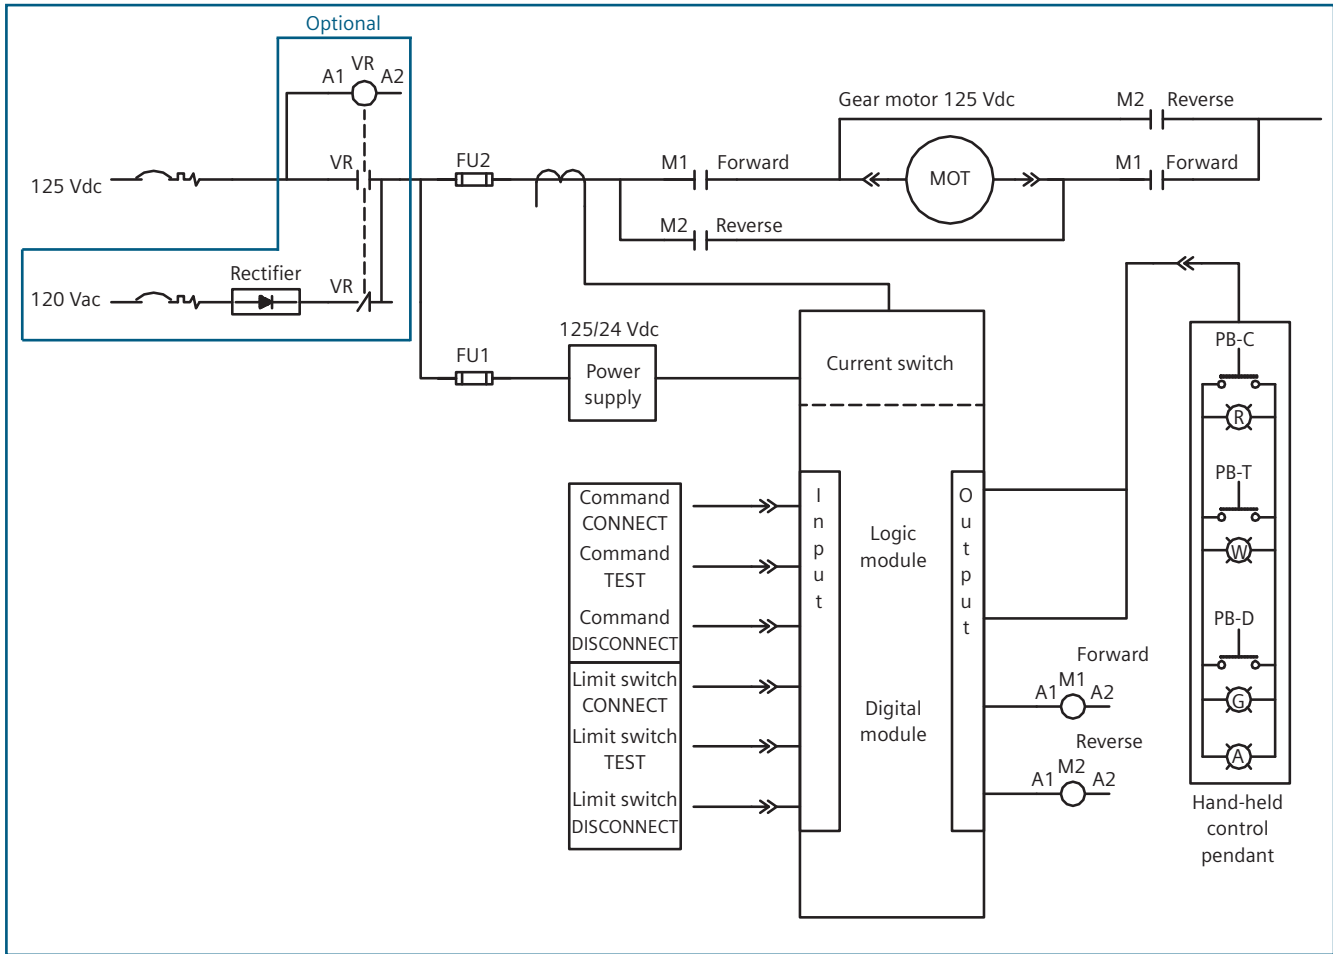
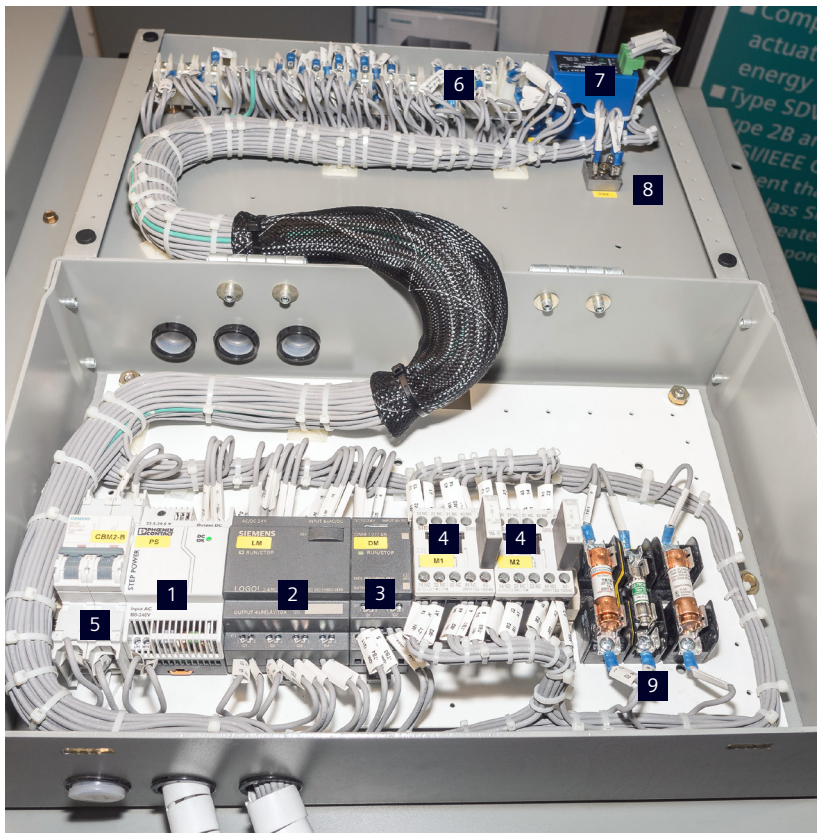

Figure 3: SIERS control circuit
Figure 4: Control devices for SIERS racking system
The SIERS electrical racking system controls are located in a self-contained enclosure on the top of each switchgear section (Figure 4: Control devices for SIERS racking system).
1. Open the MCB (refer to Figure 3: SIERS control circuit on page 7 and Figure 4: Control devices for the SIERS racking system on page 8) to disconnect control power from the SIERS racking system.